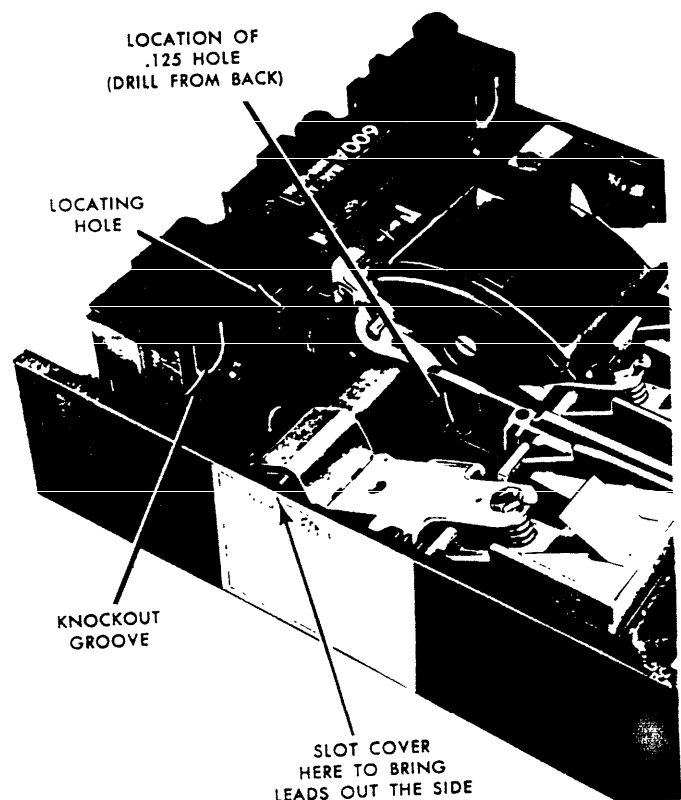

Fig. 5.
**STEP 2** Be sure circuit breaker is de-energized or removed from circuit. Using .125 diameter drill, drill through hole on pole where accessory is to be installed. See Fig. 5. This hole should be drilled from the back of the breaker using the spotting hole closest to the trip unit for locating.
**STEP 3** Being careful not to eject chips into trip unit case, drive small screw driver through knockout groove in several places. See Fig. 5. Gently pry outward to remove knockout. Clean all chips from breaker case. Turn breaker to ON position. **Note:** Some trip units may have rectangular knock-outs which are removed by inserting a screwdriver in the slot and prying up.
**STEP 7** To bring the accessory leads out the side of the breaker, file necessary openings in the breaker cover at any point  $3\frac{1}{8}$ " to  $5\frac{3}{4}$ " from the trip end of the breaker. See Fig. 5.